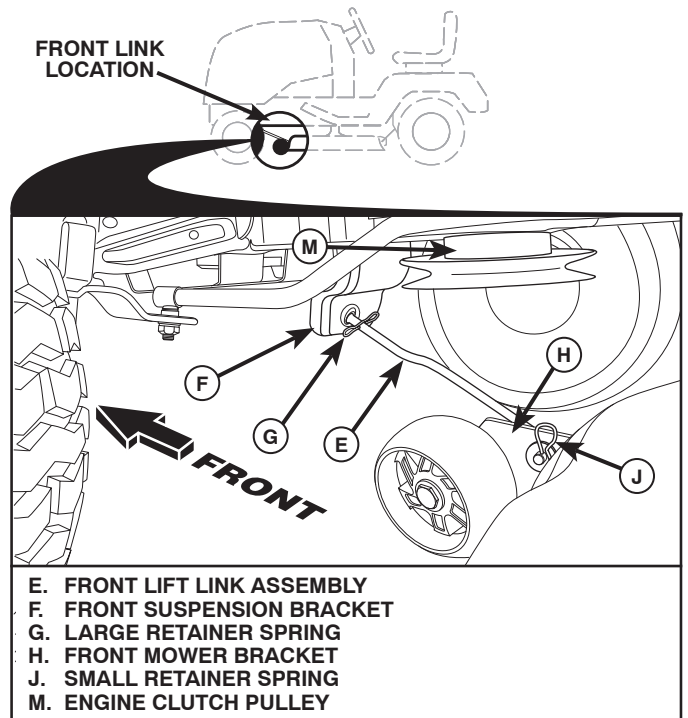

Fig. 14
8 ATTACH FRONT LINK (E) (See Fig. 14)
- From front of tractor, insert rod end of front link (E) through front hole in tractor front suspension bracket (F).